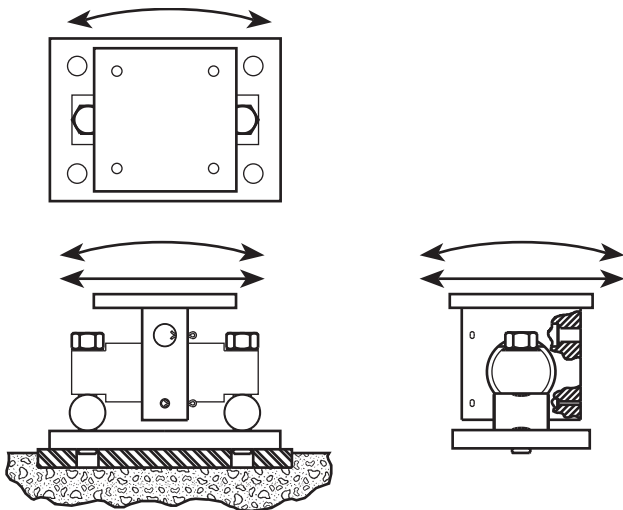

Figure 15-7.
3. This arrangement allows the chair to move in practically all directions, as illustrated in Figure 15-7, while providing checking in all directions.